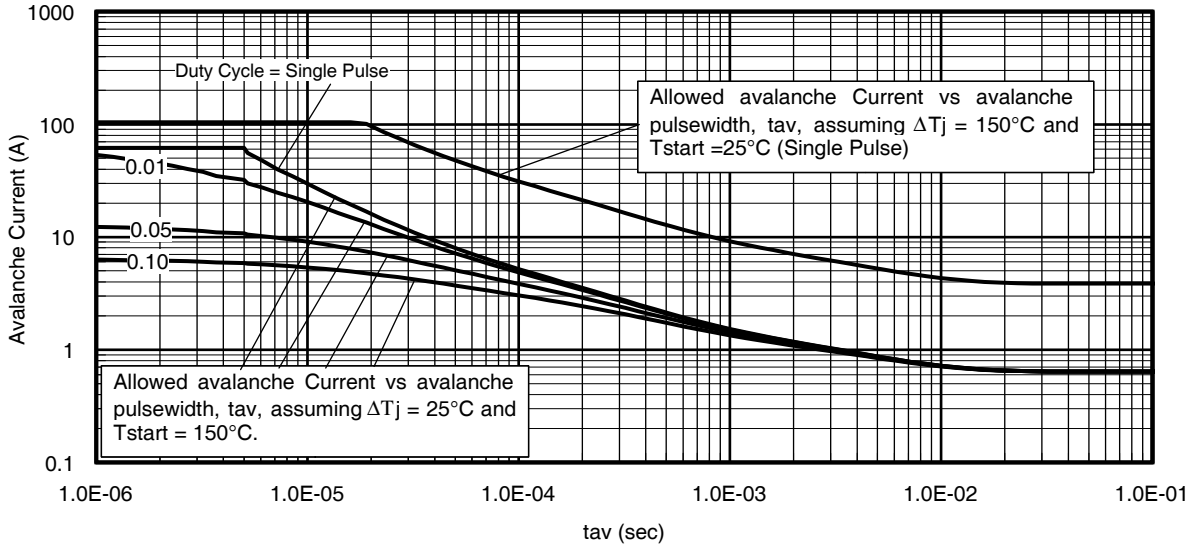

Fig 14. Typical Avalanche Current vs. Pulsewidth
7. ΔT = Allowable rise in junction temperature, not to exceed T_{jmax} (assumed as 25°C in Figure 14, 15).